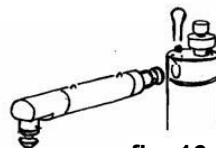

fig. 16
- Remove Garnishing Nozzle and Locking Device (fork) from Valve Head. Turning lightly, pull Whipping System out of the Valve Head. (fig. 16)